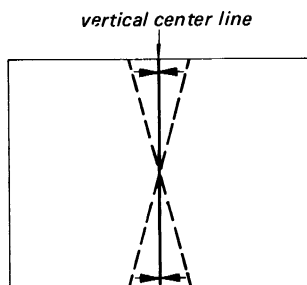

Fig. 3-7
- (6) Adjust RV5541 (H SKEW (G)) to make the vertical center line of cross-hatch pattern vertical as shown in Fig. 3-7.